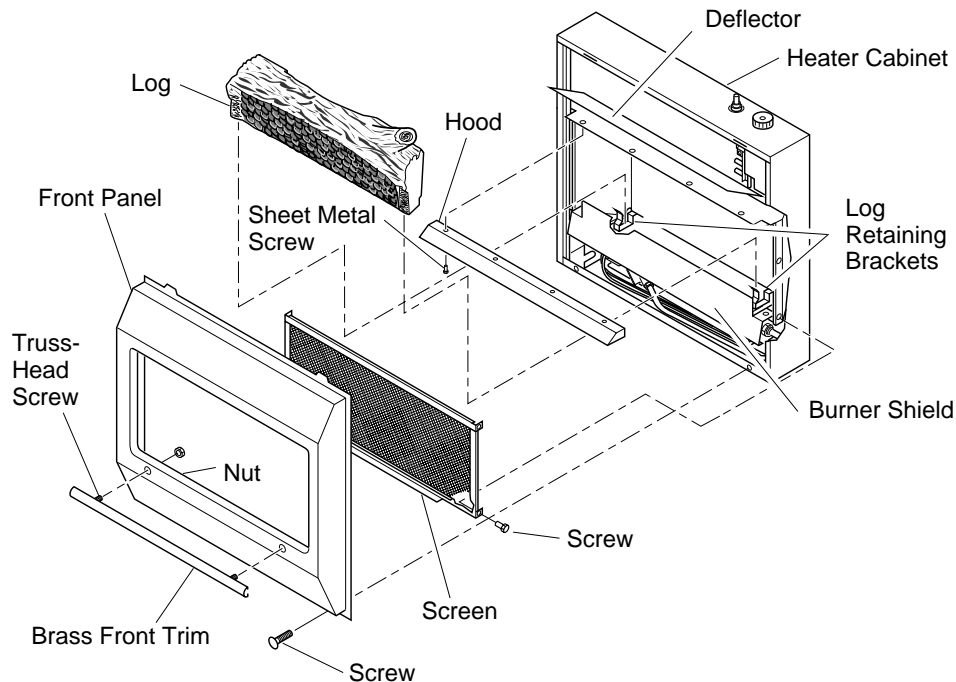

Figure 3 - Assembling Heater
3. Place hood on deflector and line up holes (see Figure 3, page 4).
3. Gently slide log between log retaining brackets on deflector assembly (see Figure 3, page 4). The log should fit firmly against bottom of log retaining brackets.
3. Line up screws with holes in front panel (see Figure 3). Insert screws in holes. Attach nuts from inside of front panel. Tighten with wrench.